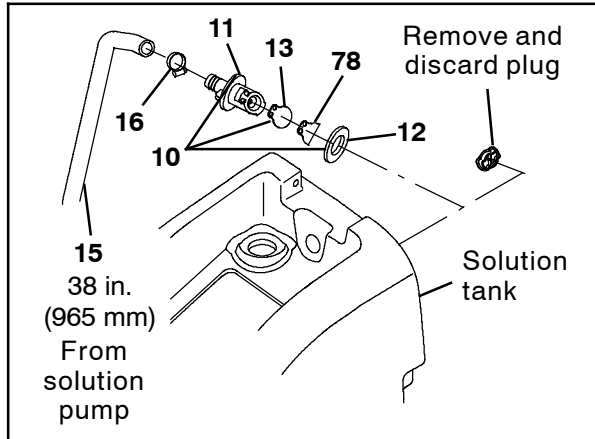

FIG. 8
61. Remove the plug from the back of the solution tank. Discard the plug. (Fig. 8)
62. Install the check valve kit (10) / flap restrictor (78) into the back of the solution tank. (Fig. 8)